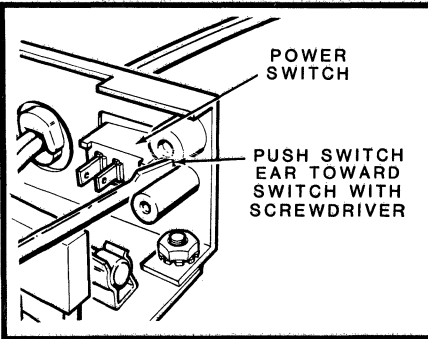

Figure 14
This section, along with Figure 14, provides instructions for both disassembling and reassembling the ZVM-1240/-1240-E monitors. The numbers in the parentheses e. g. (130) are reference descriptions given in Figure 14. The step-by-step instructions are written for disassembly. For reassembly, perform the steps in the reverse order except when instructed otherwise.
3. Remove the seven screws (135) shown in Figure 14.
4. Carefully slide the back cover (130) from the monitor.
WARNING: Discharge the high voltage at the anode lead of the CRT, using a jumper lead connected between the chassis and a screwdriver. Otherwise, shock or injury may result. Refer to the inset drawing in Figure 14.
2. Use a flat bladed screwdriver to carefully pry the ON/OFF switch out of the rear control panel. Alternately pry from side to side until the switch is loose. Refer to the inset drawing in Figure 14.
WARNING: Discharge the high voltage at the anode lead of the CRT using a jumper lead connected between the chassis and a screwdriver. Otherwise, shock or injury may result. Refer to the inset drawing in Figure 14.
Major Assemblies (Refer to Figure 14)